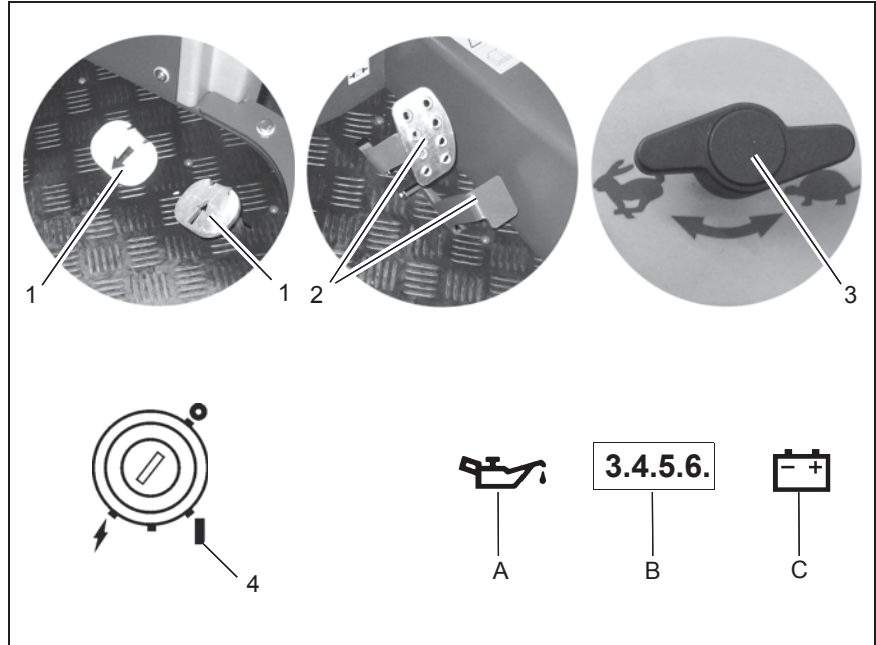

Fig.5
1. The accelerators (Fig. 5/1) must be in their neutral setting.
2. The vehicle's parking brake must be applied (Fig. 5/2).
4. Set the engine speed switch (Fig. 5/3) to working speed (hare).
5. Turn the ignition key clockwise to the ignition icon (Fig. 5/4).
- The operating hour counter (Fig. 5/B) displays the software version, possibly the last diagnostic code and the operating hours in succession. The control lamps for the engine oil pressure (Fig. 5/A) and charge control (Fig. 5/C).